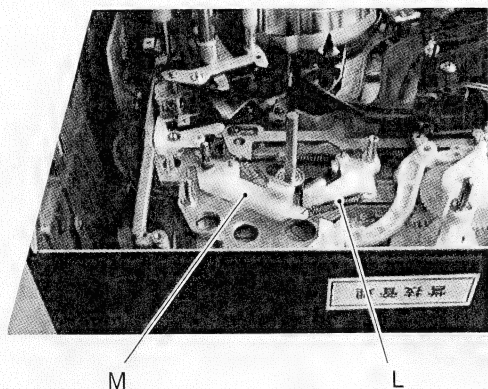

Fig. 2-6-17
10. Remove spring L then remove sub-brake assembly M by lifting it (see Fig. 2-6-17).